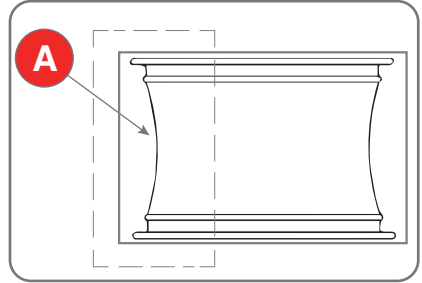

Fig. 6.3
Alloy rim wheels: some wheels with alloy rims have a very small rim channel (A) or do not have any rim channel - (Fig.6.3). These rims are not approved by DOT standards (Department of Transportation). The DOT initials certify that tyres comply with the safety standards adopted by the United States and Canada (these wheels cannot be sold in these markets).